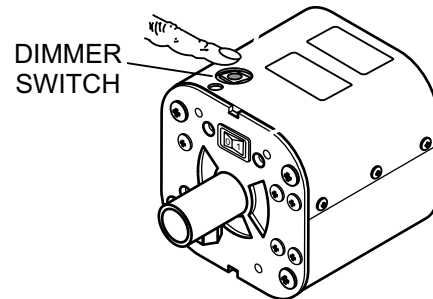

Figure 19. Dimmer Switch
2. Press the dimmer switch lightly (Figure 19). The LED will blink. The lamp should dim to about 75% brightness.